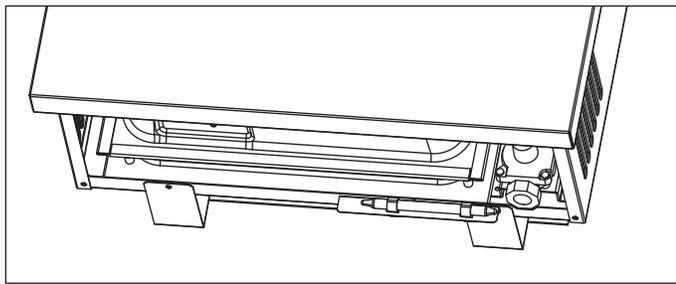

Figure 32
4. The gas supply system must include a manual shut off valve and connection in the line, so the heater can be disconnected for servicing. (See Figure 32).